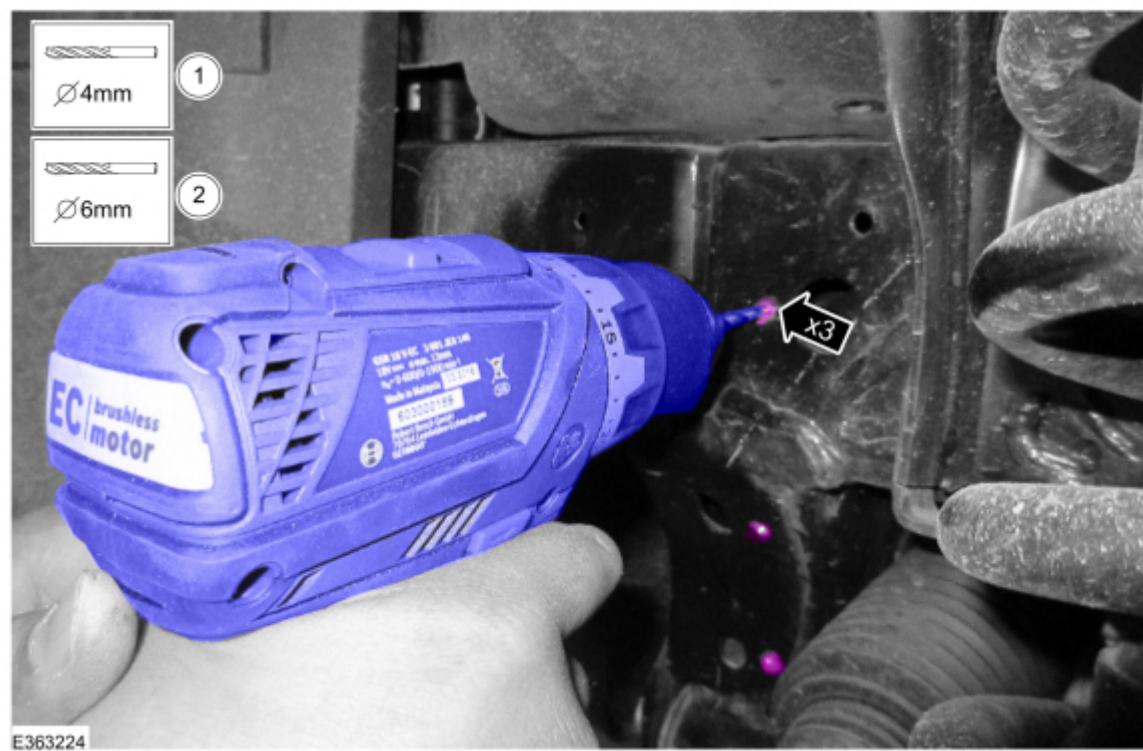

Figure 7
8. Using a 4mm drill bit, drill pilot holes in each of the three locations. Then using a 6mm drill bit, drill the holes to the final size. (Figure 7)